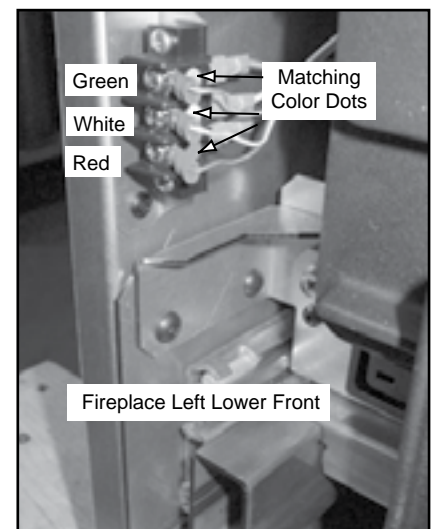

Figure 34.3 - Terminal Connection Bar
1. There is a 5 screw terminal connection bar that is located in the lower left side of the fireplace above the slide rails. **Figure 34.3.**